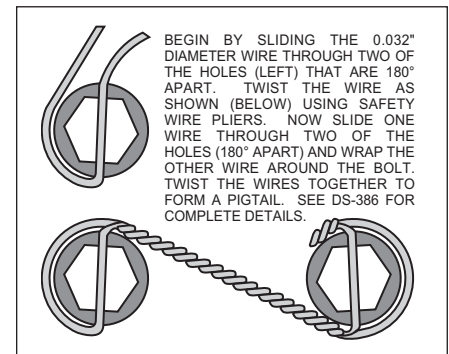

Figure 3. Safety Wire Diagram
- The caliper mounting bracket assembly (1) should be installed first with clean, dry threads on the mounting bolts. The bracket must tighten squarely against the outboard side of the caliper mount bosses on the spindle body. Inspect for interference from casting irregularities, machining ridges, burrs, etc. Slide bolt (2) through lock washer (3) then through the hole in the spindle body where the OEM bolt was removed. Use one thin shim (4) between the bracket and spindle during initial trial fitting. Later, after the caliper, pad and rotor alignment have been checked, and any necessary shims have been put in place, the mount bolts (2) should be coated with red *Loctite*® 271 and torqued to 47 ft-lb.
- With the larger I.D. side of the rotor (5) facing away from the hat (6), bolt rotor (5) to hat (6) through the backside of the rotor using washers (7) and bolts (8). Torque bolts (8) to 85 in-lb. Safety wire bolts (8) using standard 0.032 inch diameter stainless steel safety wire as shown in Figure 3. Please refer to Wilwood's data sheet DS-386 (available at www.wilwood.com/pdf/ds386.pdf) for complete safety wire installation instructions. Slide the rotor/hat assembly onto the spindle. Install a couple of lug nuts (hand tighten) to keep the rotor/hat assembly in place while continuing with the installation.
- NOTE:** Please reference the caution statement at the beginning of the assembly instructions. With the bleed screws pointing up, mount the caliper (9) onto the caliper bracket (1) with the self locking hex nut (10), flat washer (11), through the top of the caliper and mounting stud (12) with flat washer (13) and spacer (14) positioned between caliper (9) and caliper mounting bracket (1). Finger tighten. Check to see that the top of the rotor is aligned with the top of the brake pad. If adjustment is necessary, add or subtract flat washers (13). View the rotor (5) through the top opening of the caliper (9). The rotor (5) should be aligned in the center of the caliper (9). If not, adjust the caliper (9) by using 0.033 inch thick shims (4) placed between the spindle assembly and the caliper mounting bracket (1). Finger tighten and recheck alignment. Lubricate caliper mounting studs and nuts with lightweight oil, reinstall the caliper, torque the caliper nuts (10) to 30-35 ft-lb.
- Remove the bridge bolt from the caliper (9) and install the disc brake pads (15). Reinstall the caliper bridge bolt.